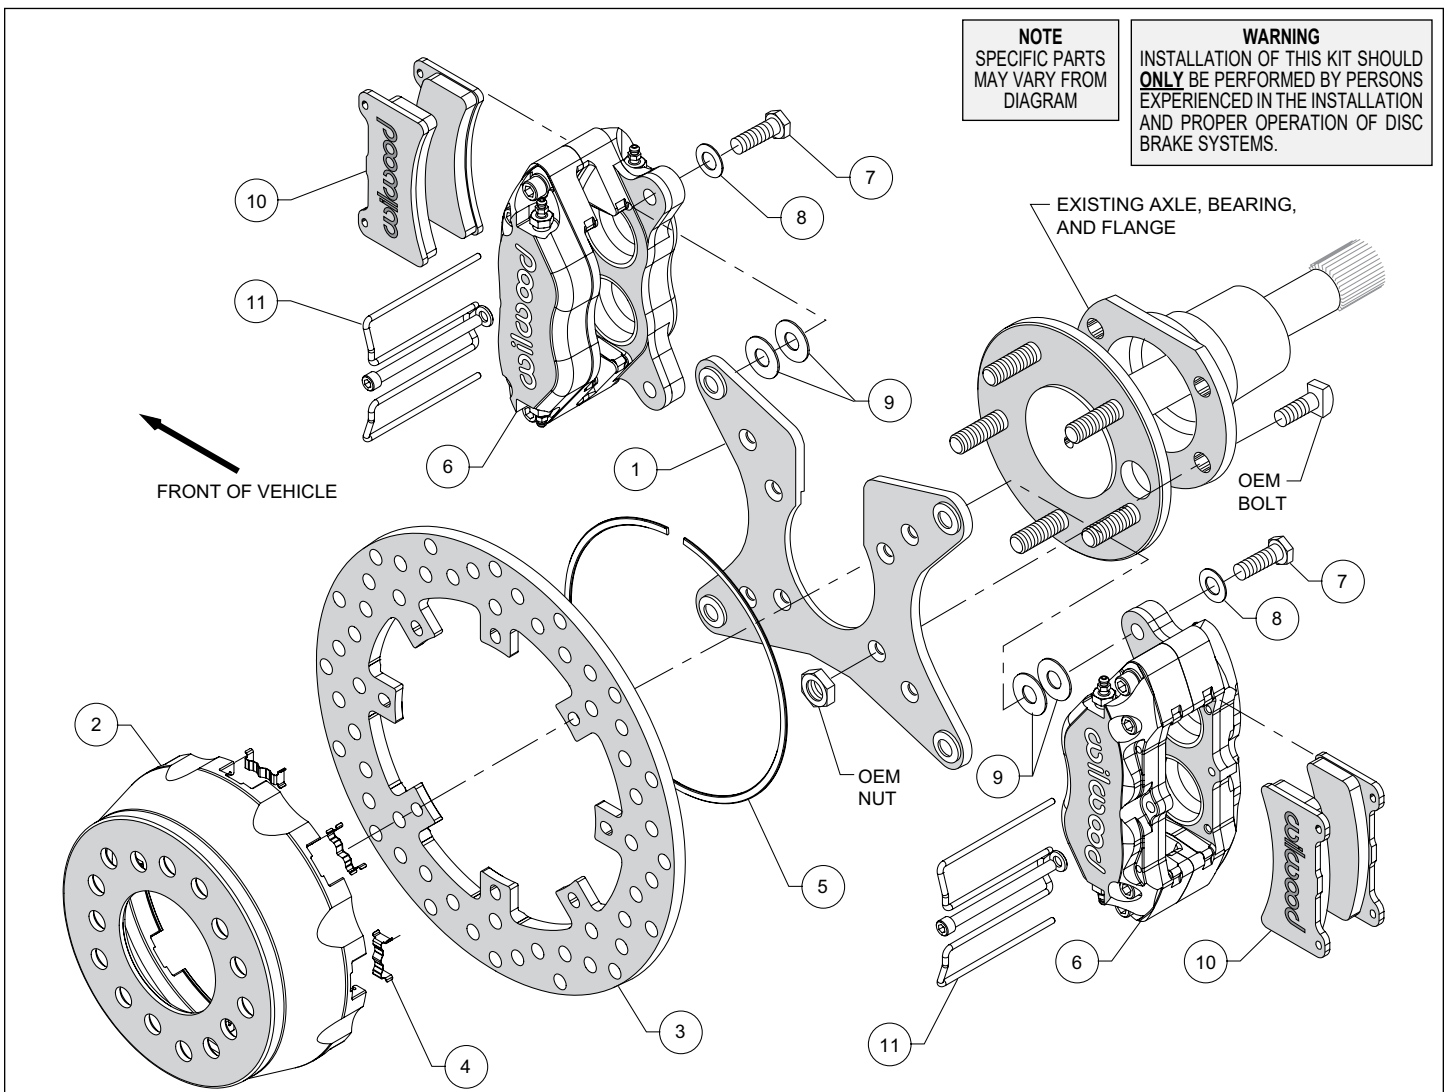
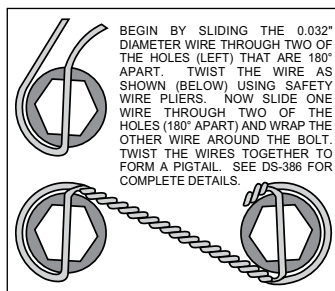

Figure 1. Typical Installation Configuration
Figure 5. Safety Wire Diagram
Assembly Instructions (numbers in parenthesis refer to the parts list and Figure 1 on the preceding pages): **CAUTION:** All mounting bolts must fully engage clinch nuts. Be sure to check that all bolts are either flush or protruding through flanged side of clinch nut after shimming, Figure 5.
- Install the caliper mounting bracket (1), with the slot for the axle pointing upward, to the housing flange using the OEM bolts and nuts, as shown in Figure 1 and Photo 1. Ensure that the caliper mounting ears on the bracket are oriented fore and aft on the car, with the heads of the clinch nuts facing outboard, Photo 1. Apply red *Loctite*® 271 to the OEM bolt threads and torque to OEM specifications.
- Insert the dynamic mount wear clips (4) into the slots in the hat (2) making sure the tabs snap in place, Photo 2. Orient the rotor (3) as shown in Figure 1 and Photo 3, with the flush mount tab side facing the hat. Attach the rotor to the hat using snap ring (5) by pushing down on the rotor and installing the ring into the groove in the hat, as shown in Photo 4. Ensure that the ring is fully engaged in the groove.
- Align the correct hole pattern in the hat (2) with the axle stud pattern and slide the hat/rotor assembly onto the axle hub. **NOTE:** The hat must fit flush against the axle flange or excessive rotor run out may result. Install three lug nuts (finger tight) to keep the hat/rotor in place while continuing with the installation. **NOTE:** Some OEM and aftermarket axles come with stud sizes larger than 0.50" diameter. Verify stud size, and if necessary, have a qualified machine shop drill the hats to the correct size.
- NOTE:** Please reference the caution statement at the beginning of the assembly instructions. Mount one caliper (6) onto the mounting bracket (1) using bolts (7) and washers (8), as shown in Figure 1. Initially place two .035" thick shims (9) on each bolt between the caliper and the bracket, Photo 5. Temporarily tighten the mounting bolts and view the rotor (3) through the top opening of the caliper. The rotor should be centered in the caliper, Photo 6. If not, adjust the caliper by adding or subtracting shims between the bracket and the caliper. Always use the same amount of shims on each of the two mounting bolts. **NOTE:** The
For an added measure of security, the bolts may be safety wired using standard 0.032 inch diameter stainless steel safety wire as shown in Figure 5. Please refer to Wilwood's data sheet DS-386 (available at www.wilwood.com/Pdf/DataSheets/ds386.pdf) for complete safety wire installation instructions. Repeat this procedure for the second caliper.